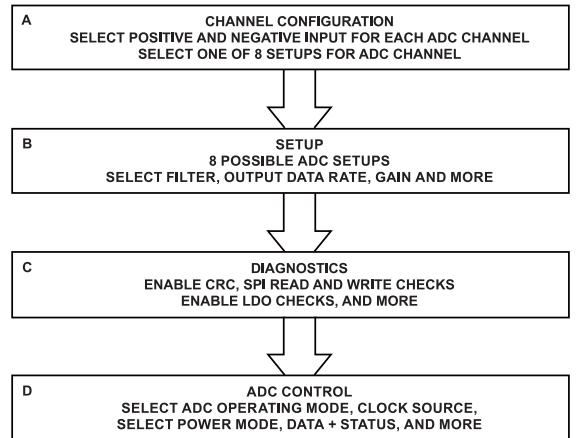

Figure 68. Suggested ADC Configuration Flow
Figure 68 shows an overview of the suggested flow for changing the ADC configuration, divided into the following blocks:
- ▶ Channel configuration (see Box A in Figure 68)
- ▶ Setup (see Box B in Figure 68)
- ▶ Diagnostics (see Box C in Figure 68)
- ▶ ADC control (see Box D in Figure 68)